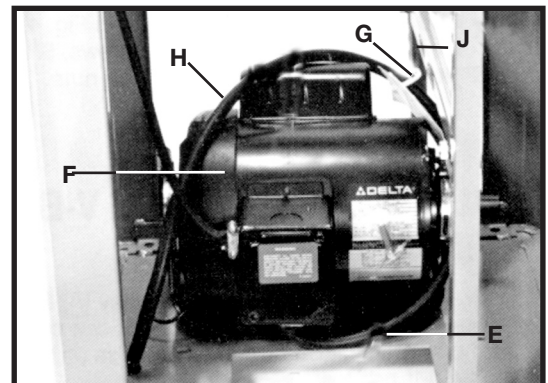

Fig. 5
3. Remove the two mounting screws that are holding the motor (F) Fig. 5 to the top of the stand. One screw is shown at (E) Fig. 5.